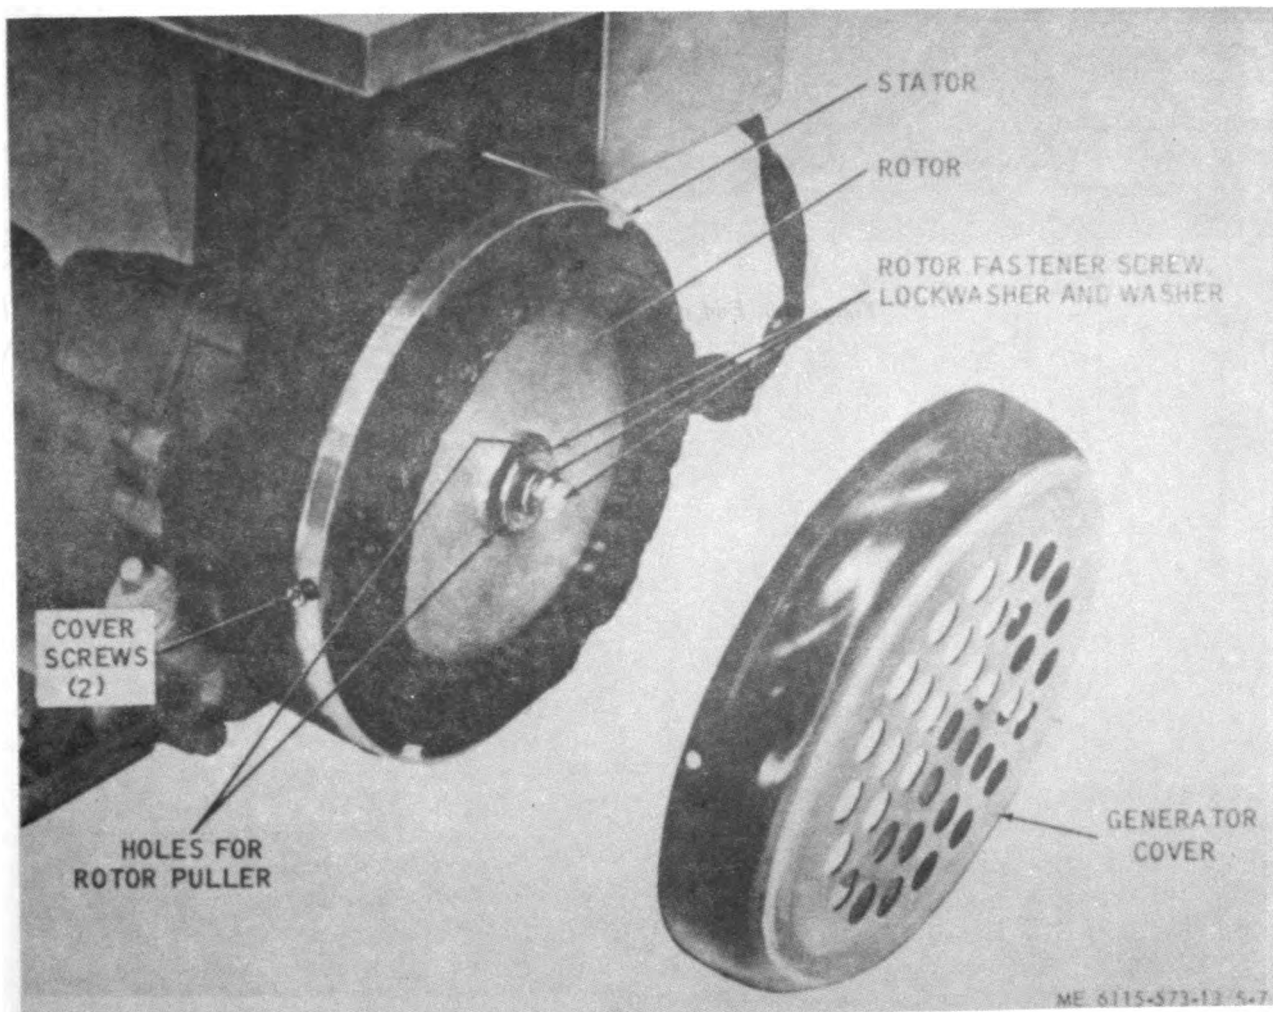
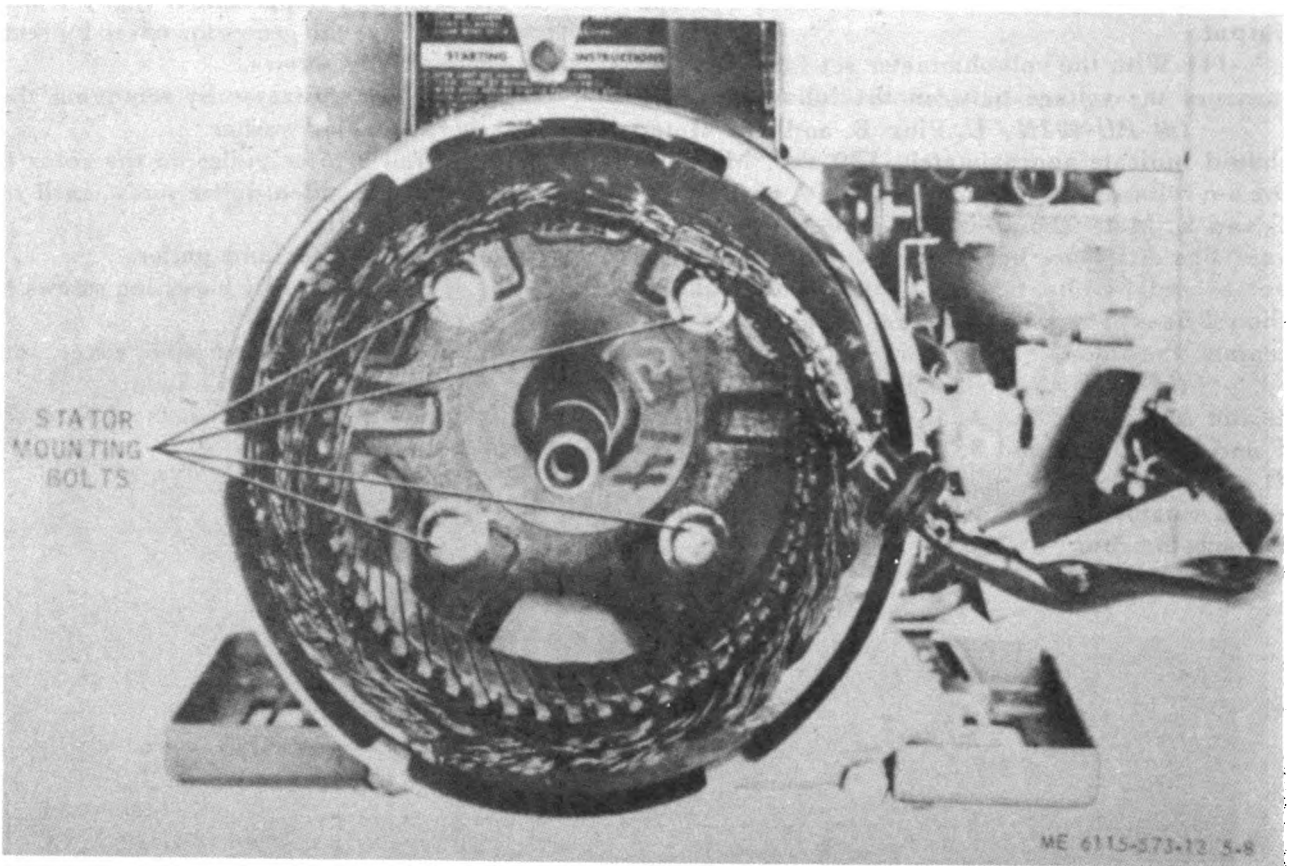

Figure 5-7. Generator, partially removed.
Figure 5-8. End view of generator, rotor removed.
c. *Removal and Replacement (fig. 5-7 and 5-8).*
(1) Remove the generator cover by removing the two mounting screws.
(2) Remove the rotor by removing the nut, lockwasher, and flat washer.
(3) Install a rotor puller on the rotor end of the crankshaft. Tighten puller screw until rotor is unseated from shaft.
(4) Remove rotor and puller.
(5) Remove stator by loosening screws (fig. 5-8).
(6) Replace an unserviceable cover, rotor, or stator with a serviceable like item.